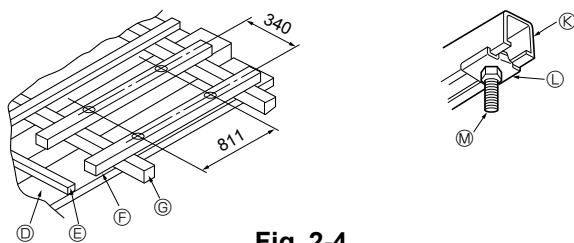

Fig. 2-4
- ① Wooden structures (Fig. 2-4)